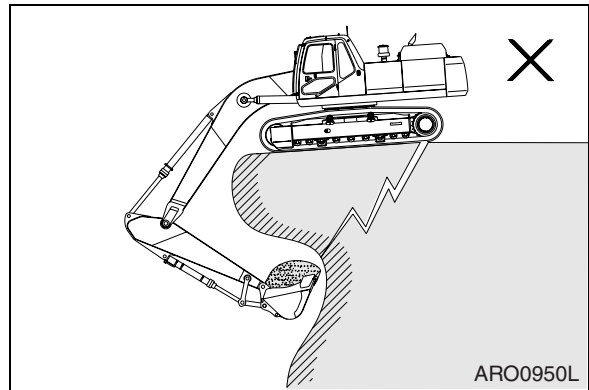

Figure 58
10. Do not excavate underneath the machine. See Figure 58.